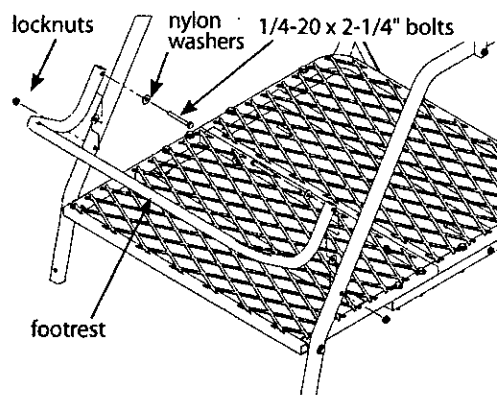

Figure 5
7. Attach footrest (410092) to ladder side rails using (2) provided 1/4-20 x 2-1/4" bolts, locknuts, steel washers and nylon washers. **SEE FIGURE 5.**